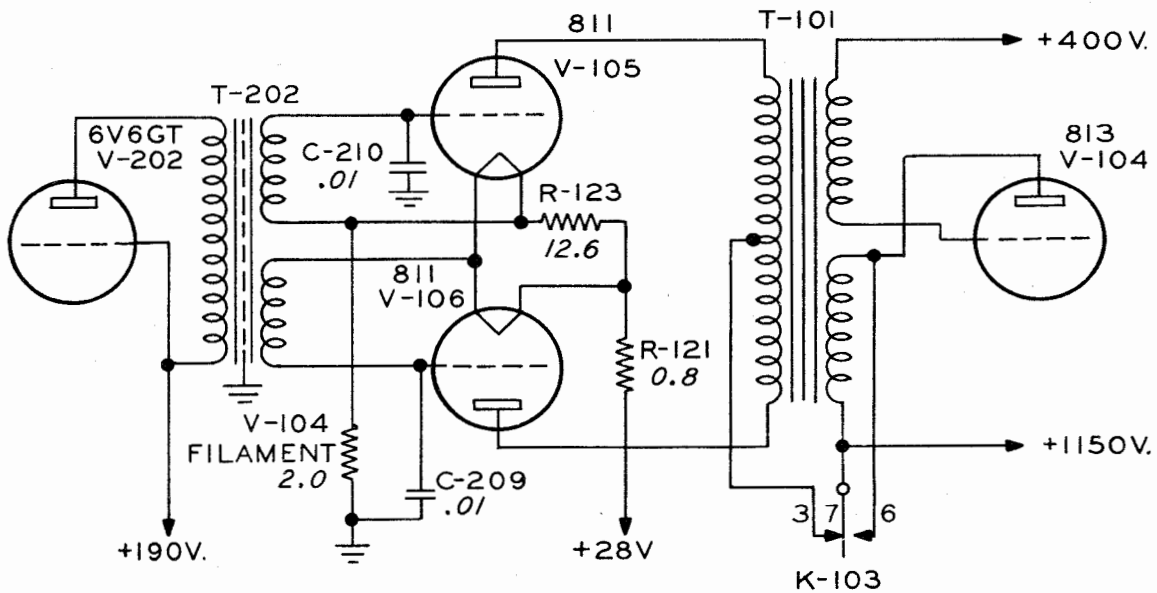

Figure 4-14 Modulator Circuits
b. **MODULATOR.** - The modulator employs two Type 811 high mu triodes connected in push-pull, and operating Class B. See figure 4-14. The modulators are capable of modulating the carrier (100 watts nominal) at least 90% with full voltage applied to the power amplifier. While the 811 is essentially a zero bias tube when used with plate voltages as high as 1150 volts DC, it becomes necessary to apply some bias to the grid of the tube to keep the static plate current at a safe value. In this application the bias is obtained from the 28 volt DC supply by utilizing the average voltage drop through the filaments of the tubes to obtain equal voltage for application to the grids of both modulator tubes. The output of the modulators is coupled to the RF circuits by modulation transformer T-101. Both the screen and plate of the power amplifier tube, V-104, are modulated. The full output voltage of 1150 volts DC, is applied to the plates of the modulator tubes, V-105 and V-106. Relay contacts 3 and 7 on K-103 remove plate voltage from the modulators when CW emission is selected.